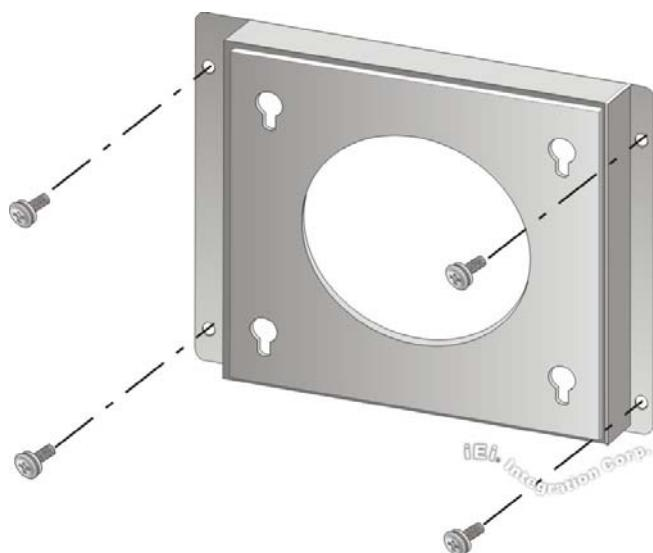

Figure 3-15: Wall-mounting Bracket
Step 5: Secure the mounting bracket to the wall by inserting the retention screws into the four pilot holes and tightening them (**Figure 3-15**).